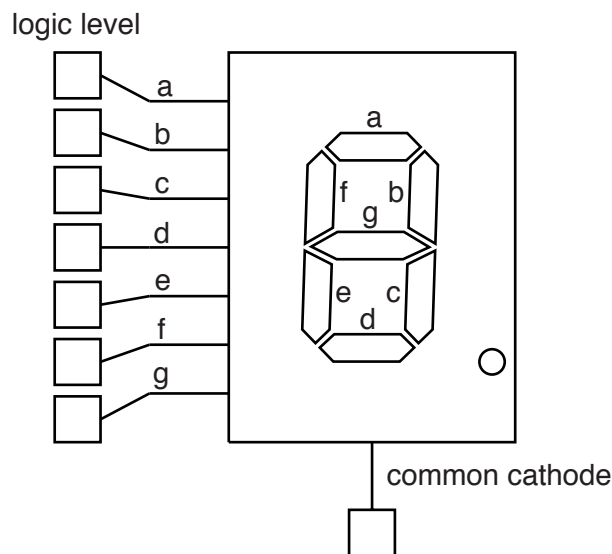

Fig. 17
- (b) A common cathode seven segment display is shown in Fig. 17.
- (ii) Write a '0' or a '1' in each of the input boxes in Fig. 17 to show the logic level of each input when the display shows 5. [4]